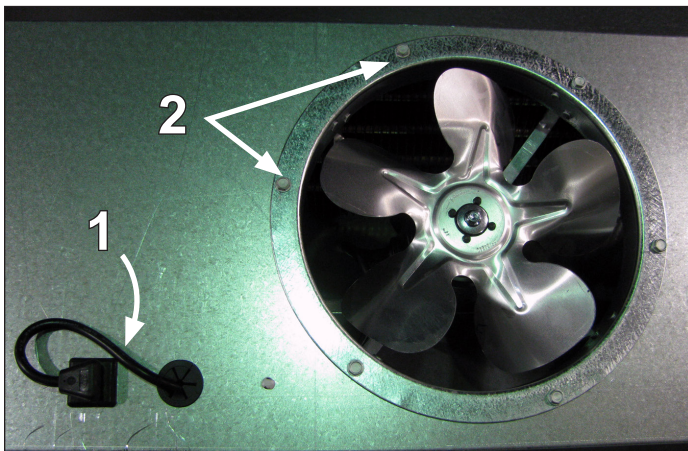

Fig. 18 Fan basket
1. Unplug the fan motor (Fig. 18), easily accessible outside the plenum. Be certain to push the power cord back through the plenum opening to avoid damage to the power cord.